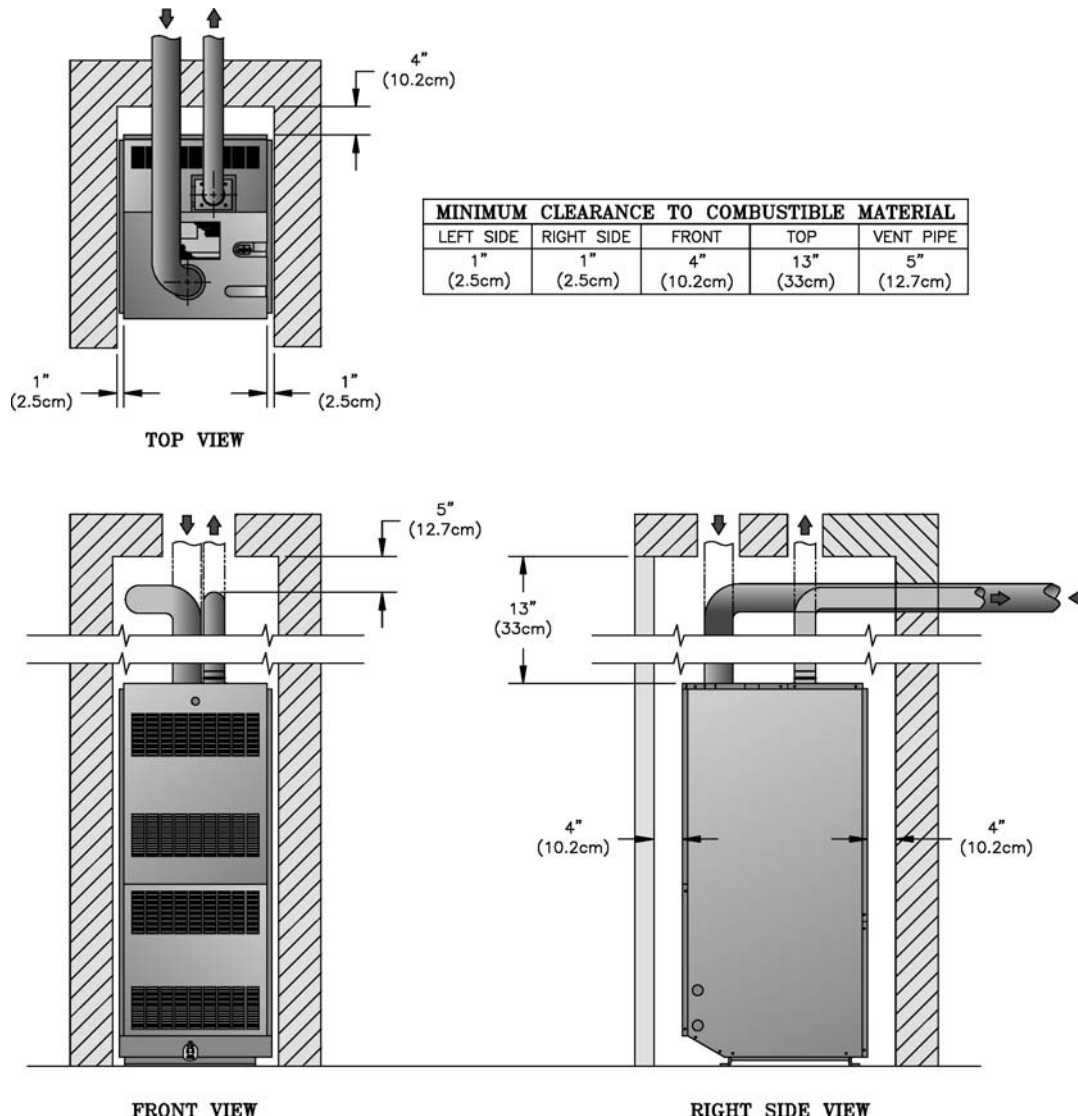

Figure 2: Minimum Clearances to Combustible Surfaces
- C. Provide clearance between boiler jacket and combustible material in accordance with local fire ordinance. Refer to Figure 2 for minimum listed clearance from combustible material. Recommended service clearance is 24 inches from left side, right side, front and rear. Service clearances may be reduced to minimum clearances to combustible materials.